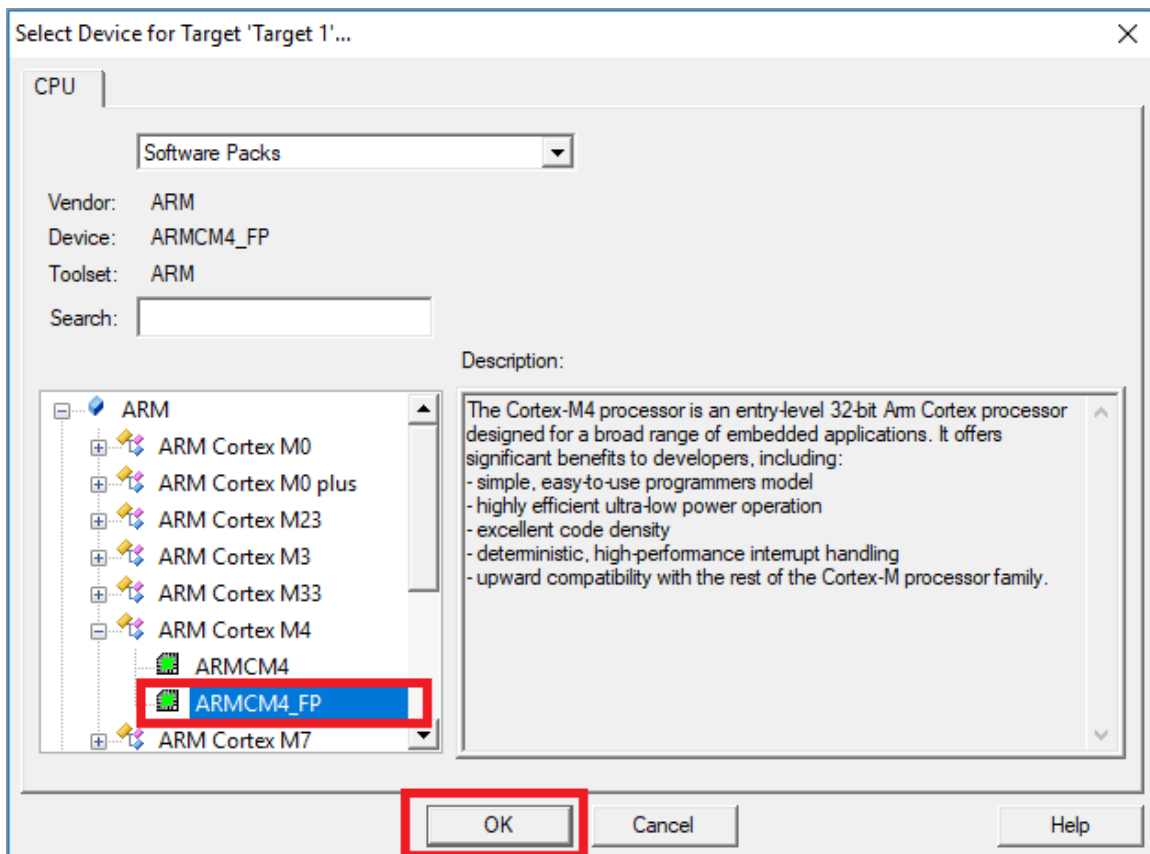

Figure 4: Choose the device.
4. We will now set the device to an ARM Cortex M4 processor with a floating point unit (FPU) as shown in Figure 4. We chose a Cortex M4 here since the board that will be used in the remainder of the labs has an ARM Cortex M4 CPU with FPU.